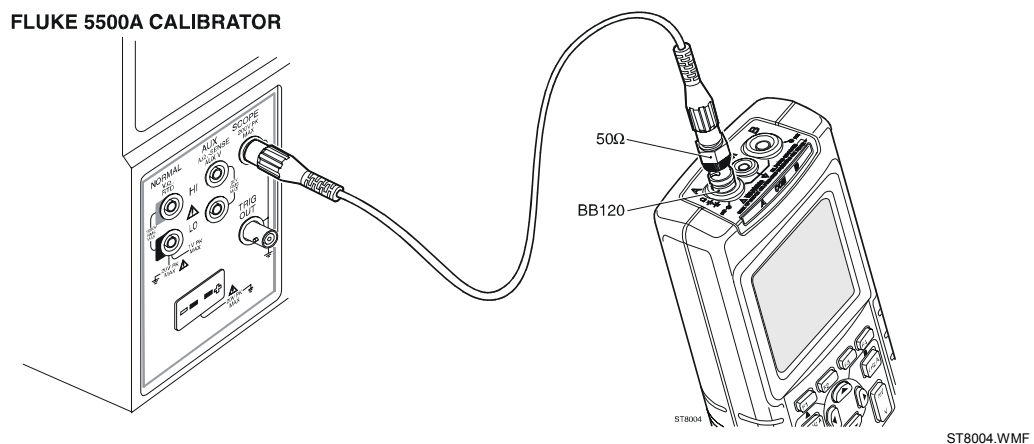

Figure 5-4. 5500A Scope Output to Input A
2. Connect the test tool to the 5500A as shown in Figure 5-4.